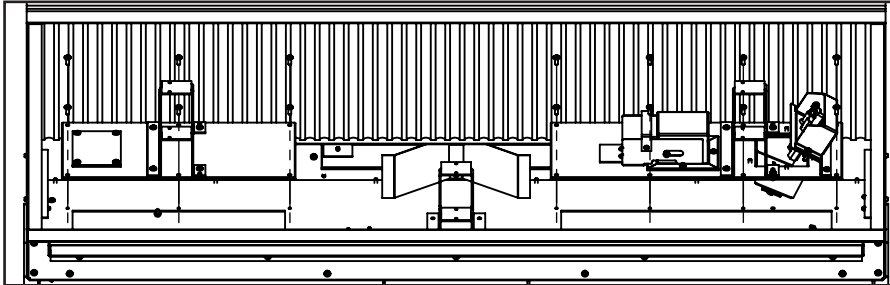

Figure 20: Removing Access Door
2. Remove the (14) T-20 bolts retaining the access panels as shown in Figure 20.